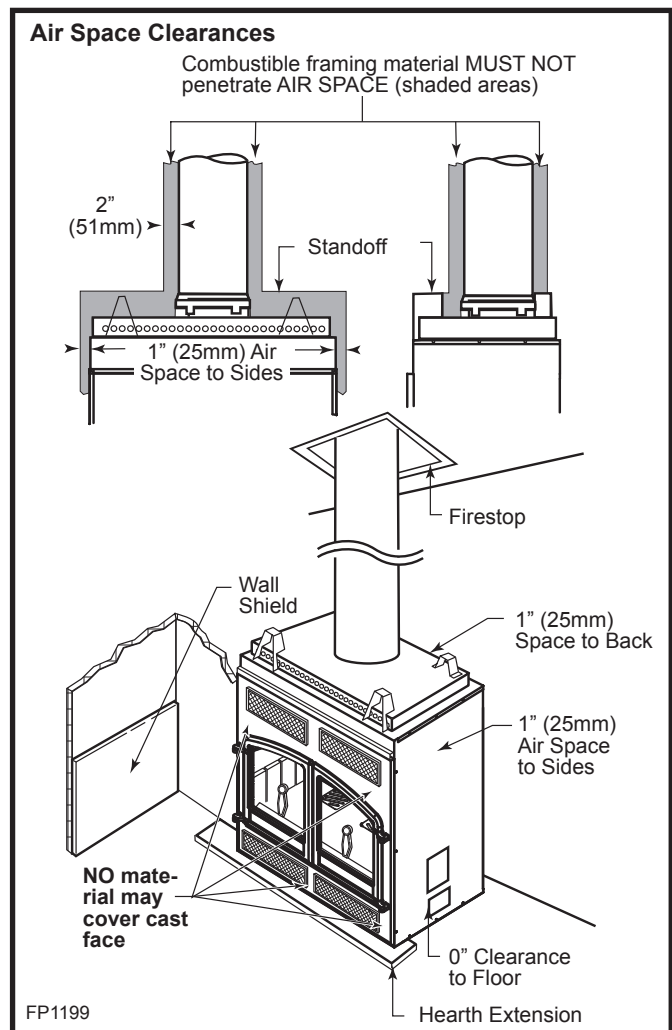

Fig. 20 Minimum clearances to combustibles.
**CAUTION:** All joints between the finished wall and the fireplace surround (steel front) must be sealed with noncombustible material to prevent cold air leakage into the room. (Fig. 20)
Finish the wall with material of your choice. **Do not install a combustible mantel shelf less than 12" (305 mm) above the firebox grille opening. Do not install a mantel face plate less than 6" (159 mm) from top of grille opening. (Fig. 20)** If a combustible material is used below a flat mantel shelf, consult your local building codes for minimum clearance from top of fireplace opening to bottom of mantel shelf.
Adjacent combustible side walls that are within minimum dimensions shown in Figure 25 of the fireplace opening must be protected with MHSC Wall Shield Model SP40 or a specifically built wall shield described in Figure 20.
The special wall shield design described in Figure 20 is an alternate method of adding protection to side walls and can be used in place of the SP40 with the same wall clearances specified for the SP40. Rt must = 1.85 minimum.